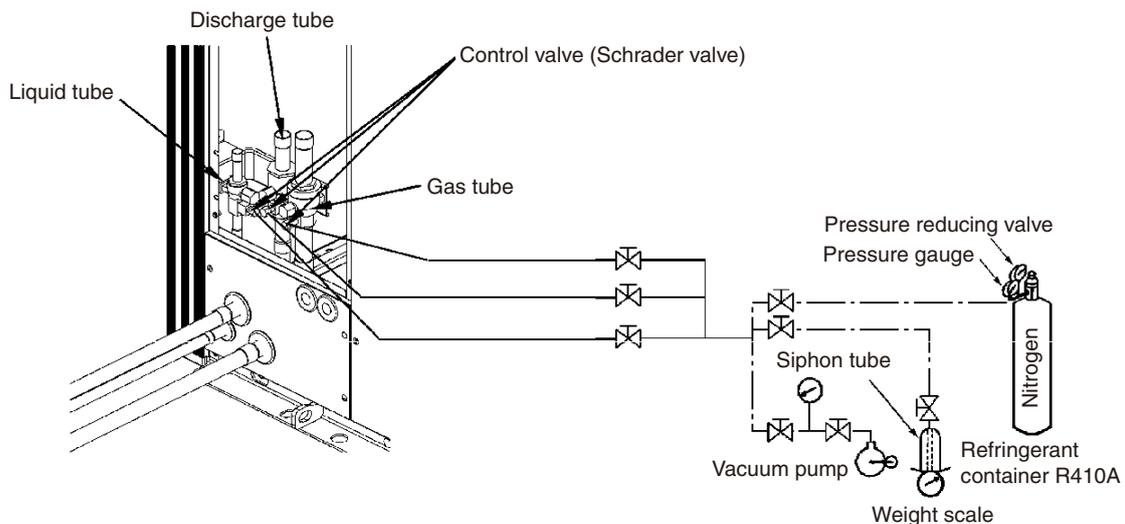

Figure 5
- (5) Tubing airtightness test and vacuum application <for 3WAY Multi>
- Connect the manifold gauge to both service ports - on the wide tube side and narrow tube size. Then connect the nitrogen tank, vacuum pump, and other items as shown in Fig. 5.